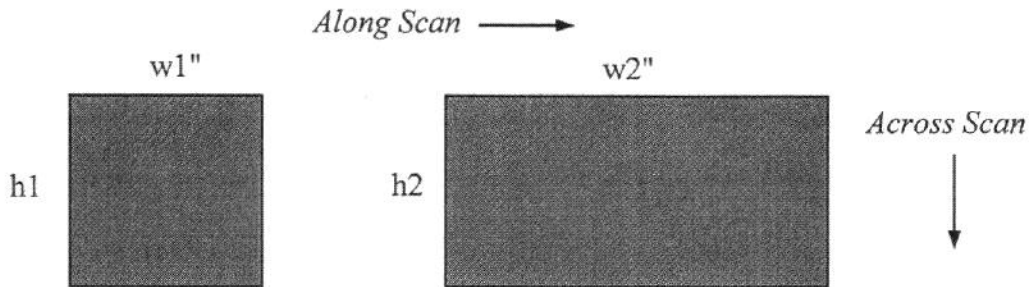

Fig. A3.2-1: Test Images
1. Prepare two grayshade images in a format that is acceptable for sending to your laser engraver. Make the first image a black rectangle that is  $w_1$  inches wide (along scan) by  $h_1$  inches high (across scan). Make the other image a black rectangle that is  $w_2$  inches wide (along scan) by  $h_2$  inches high (across scan). Produce the images at the same resolution that you intend to use on the laser engraver, e. g., 250 dpi would probably be a good choice for a ULS machine and 300 dpi would probably be a good choice for an Epilog or LMI machine. The images can be produced in CorelDraw or PhotoShop by small modifications to the procedures described in Sec. A3.1, Steps 1A and 1B. The images you have produced should appear as depicted in Fig. A3.2-1.